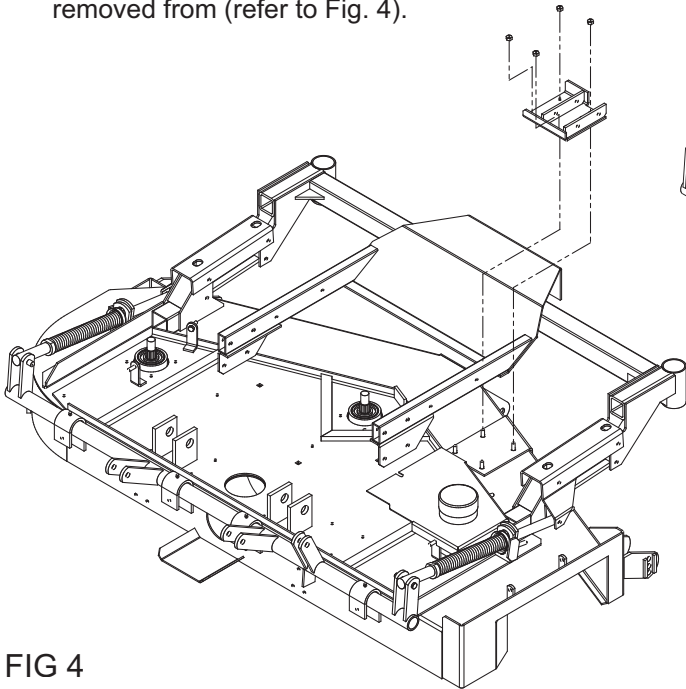

FIG 4
- B. Using the fasteners from the previous step, mount the front height mount (592080) onto the deck using the existing holes that the height adjustment bracket was removed from (refer to Fig. 4).